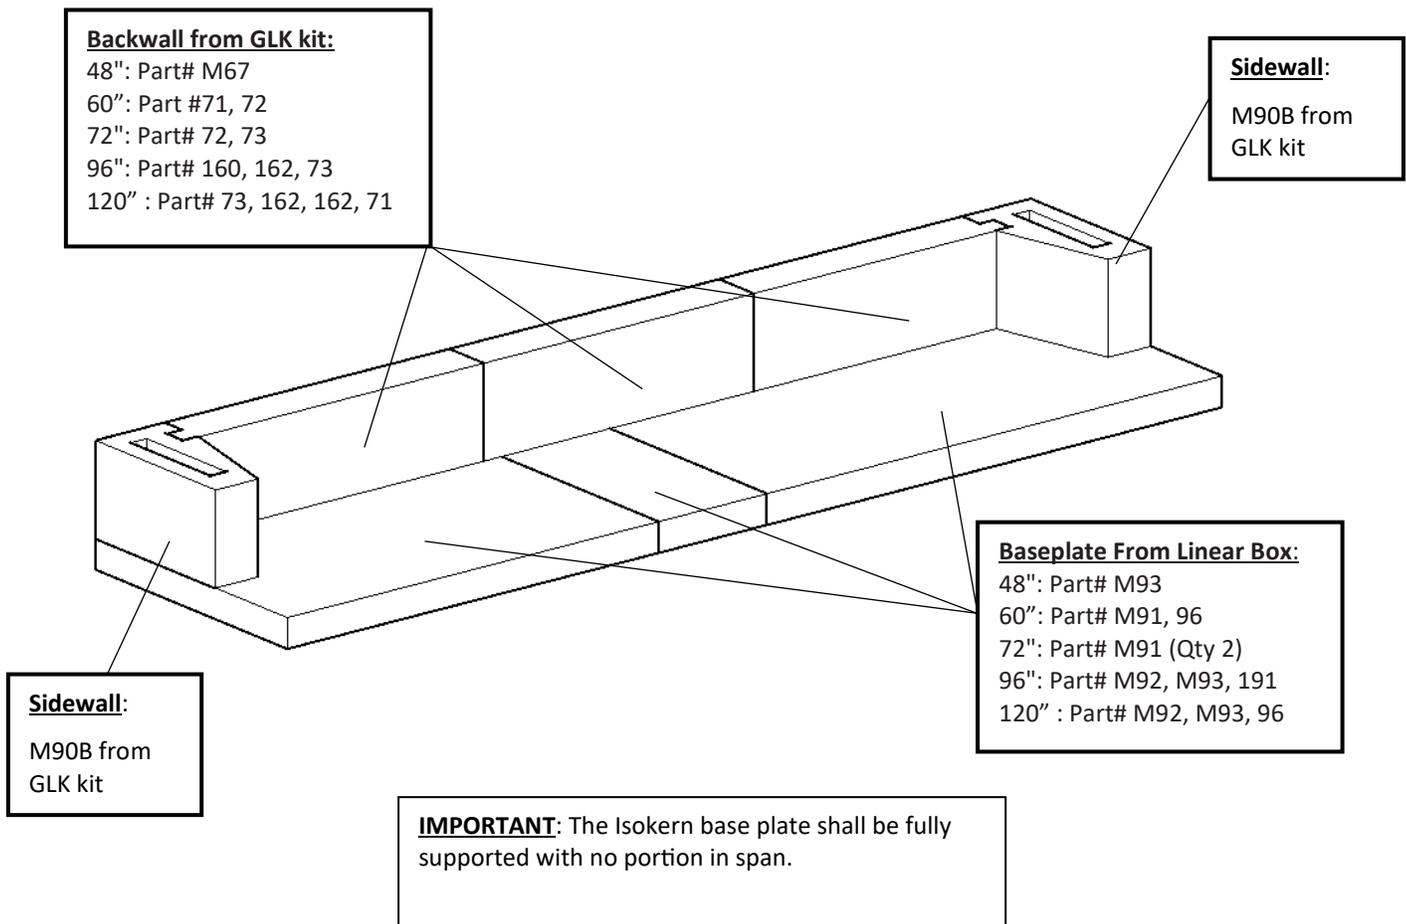

FIGURE 10
- 1) Apply Earthcore Adhesive to the joints between each baseplate part and ensure to set each base plate in a full bed of Earthcore Adhesive on a level support surface (**Figure 10**). See page 22 for information regarding the supporting floor system. Do not set the base plate so that it is in span. Refer to pages 6 - 20 for firebox and part dimensions.
- 2) Set the first course of the firebox side walls and back walls into place (**Figure 10**).